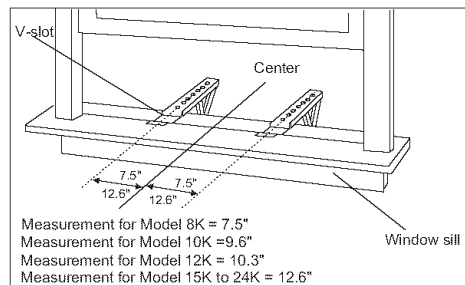

Fig. 6
B. Measure the inside window sill width and find the center as shown in (*Fig. 6*). Align the **V-slot** in each bracket on these marks and mount the brackets to the sill using **3/4" screws** provided. Brackets should be perpendicular to the inside window sill. See (*Fig. 6*).